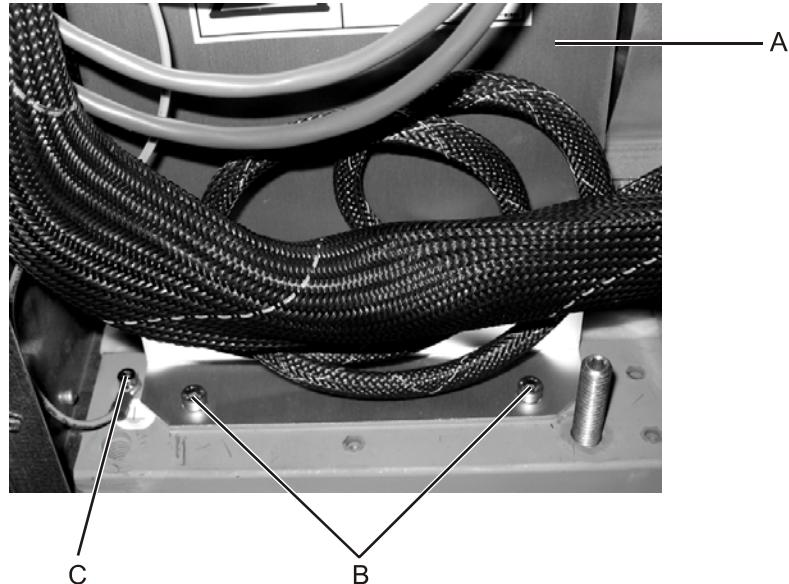

Figure 15: Removing the gas circulation fan cover sheet
3. Use the 3 mm allen key to unscrew the gas circulation fan cover grounding cable (see Figure 15, C).
4. Use the 4 mm allen key to unscrew the two securing screws (see Figure 15, B) and remove the gas circulation fan cover sheet (A).